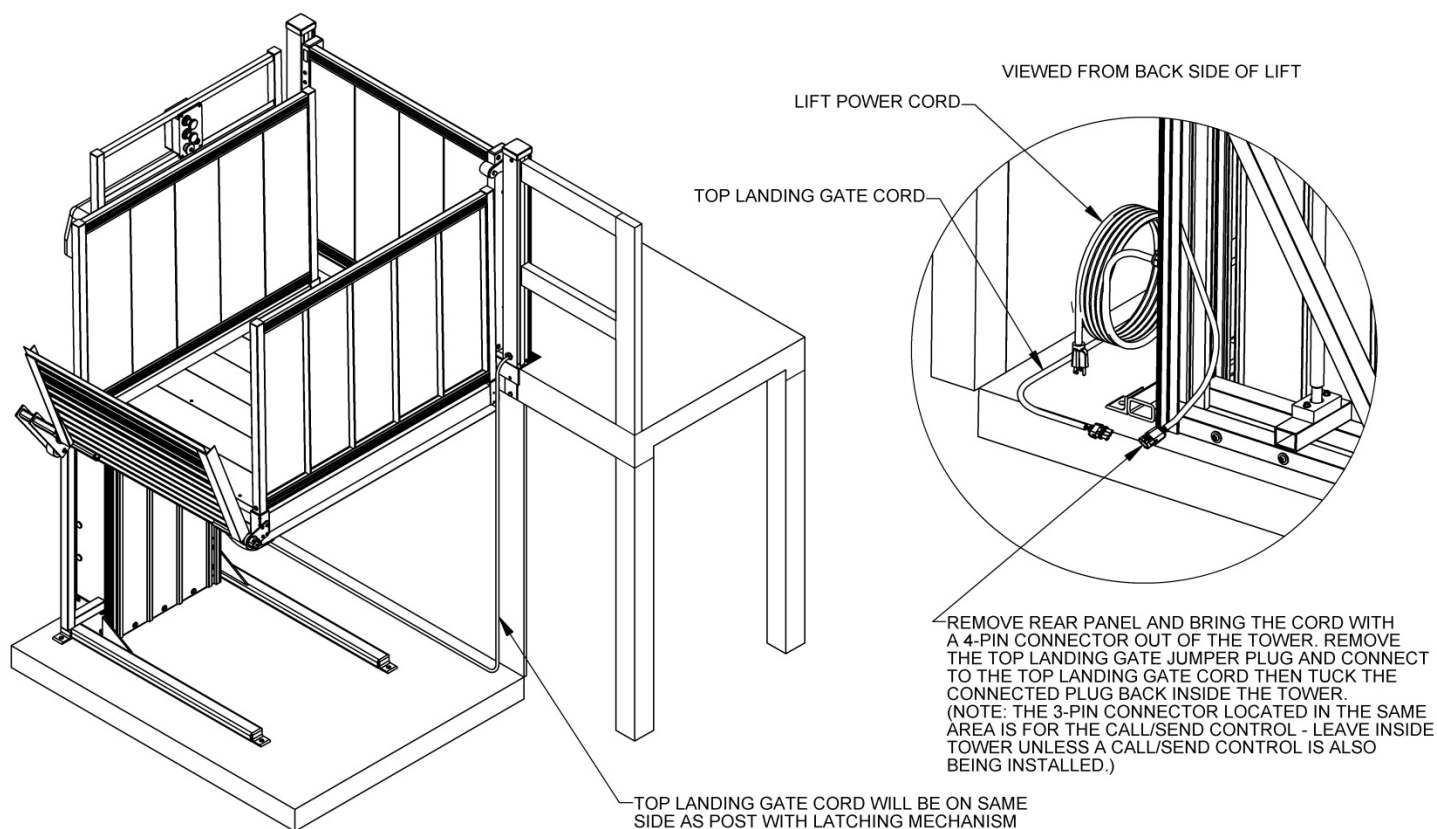

FIG. 6.4
8. Before connecting the Top Landing Gate cord, the VPL Platform must be set at the upper landing level. Proceed with Steps 15 through 33 in Section 4 if not already complete. Connect the Top Landing Gate cord to VPL by first removing rear cover. There will be a cord with a 4-pin connector inside the tower located in the area where the power cord exits the tower. Bring this cord out of the tower and remove the Top Landing Gate jumper plug from the connector. Connect the Top Landing Gate cord and tuck the connected plug back inside the tower (FIG. 6.4).